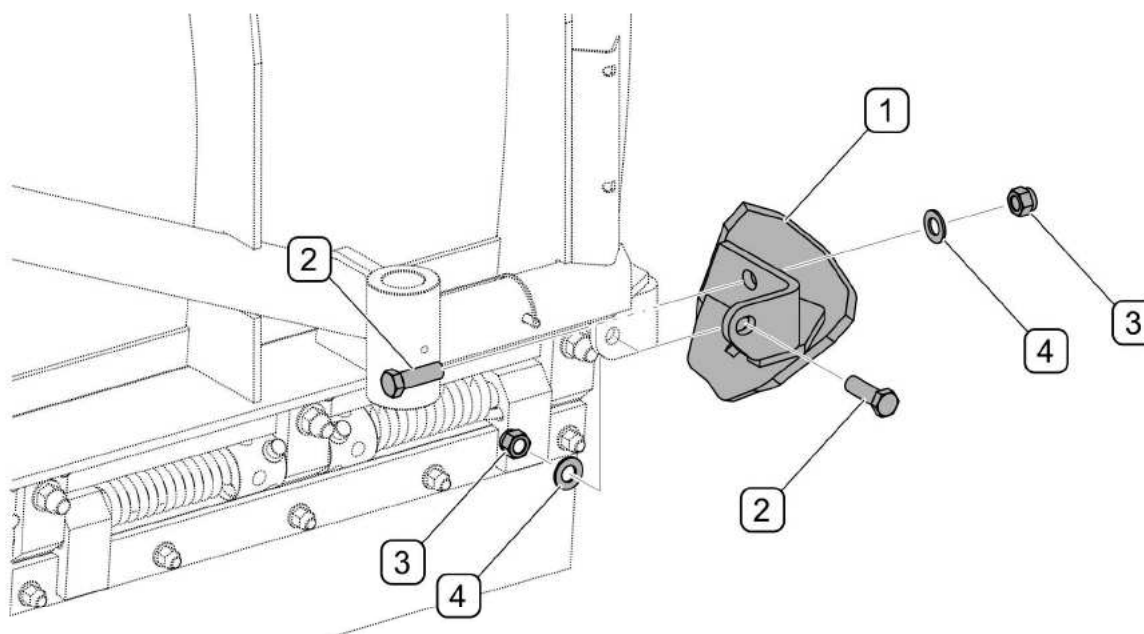

FIG. 4.21 Installing fenders
Optionally, the plough can be equipped with the right fender and the left fender, which are used for protecting the plough blades' sides during working near kerbs. Fenders (FIG. 4.21) are mounted to the plough frame with bolts (2), washers (4) and nuts (3). The right fender and the left fender are mounted in the same way.